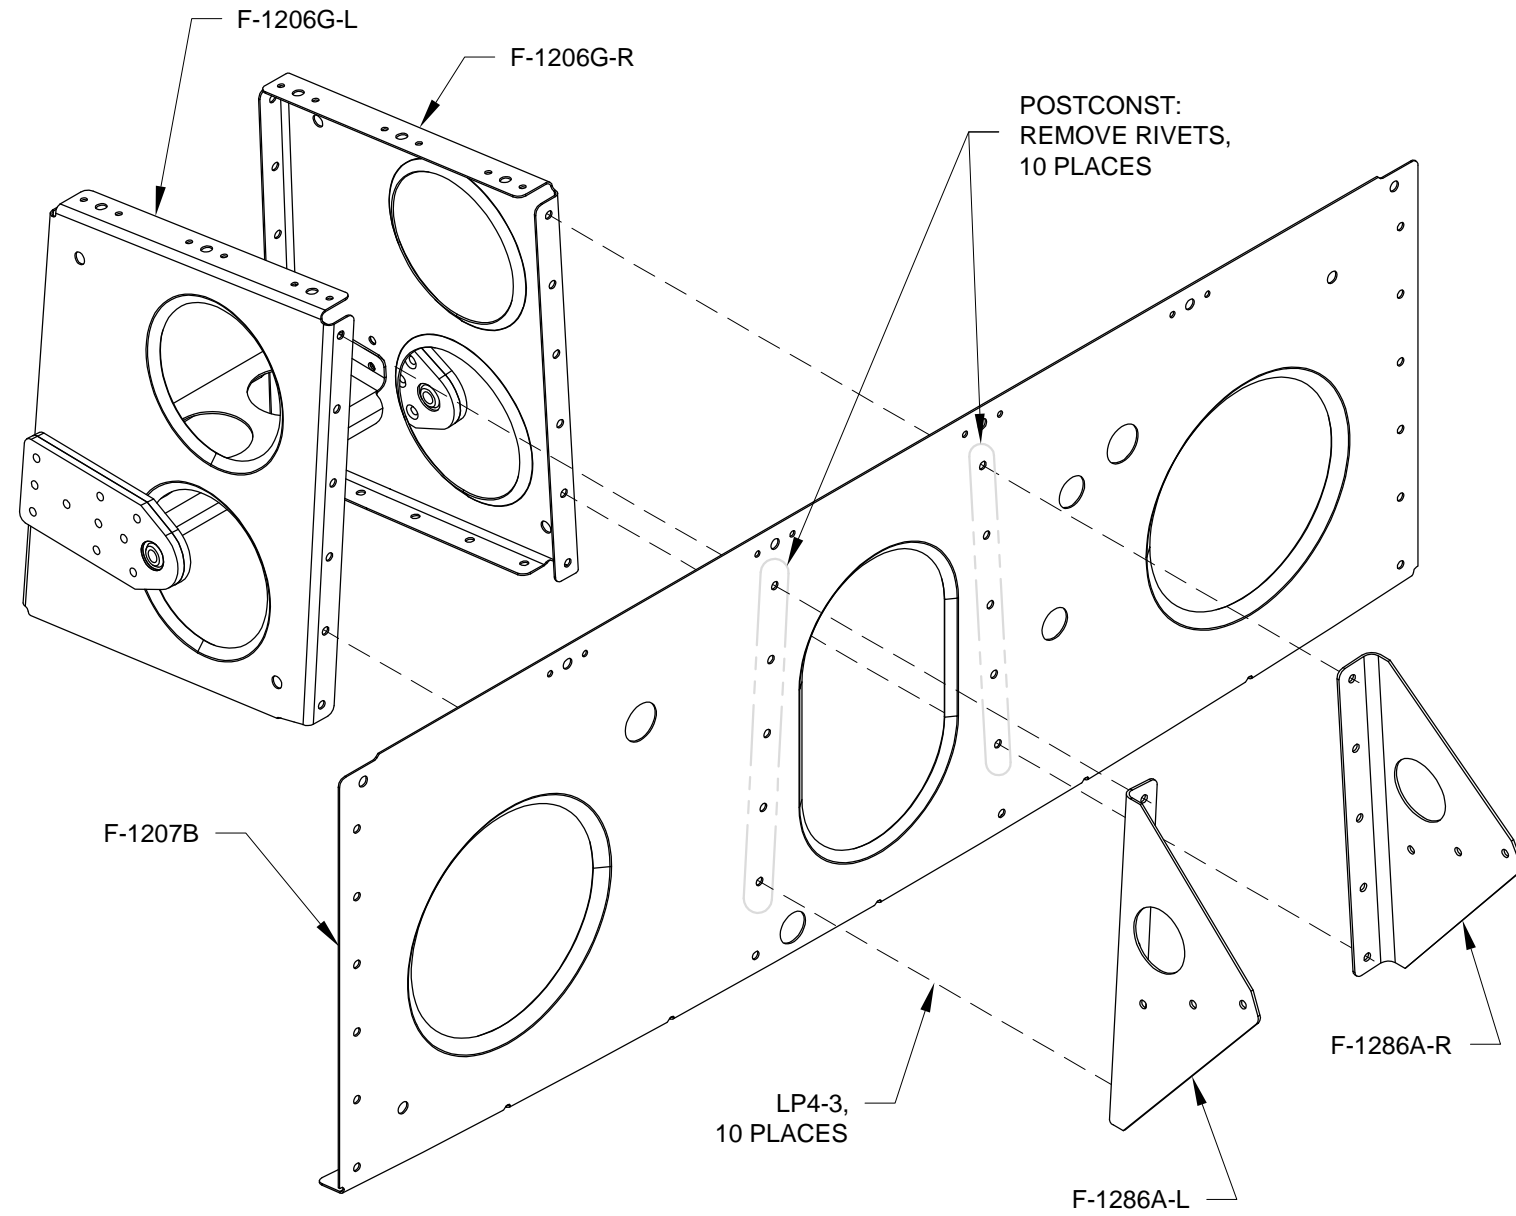

FIGURE 1:
Step 2: Cleco then rivet the F-1207B Baggage Bulkhead and the F-1286A Servo Brackets to the F-1206G-L & -R Baggage Ribs using the rivets called out in Figure 1.